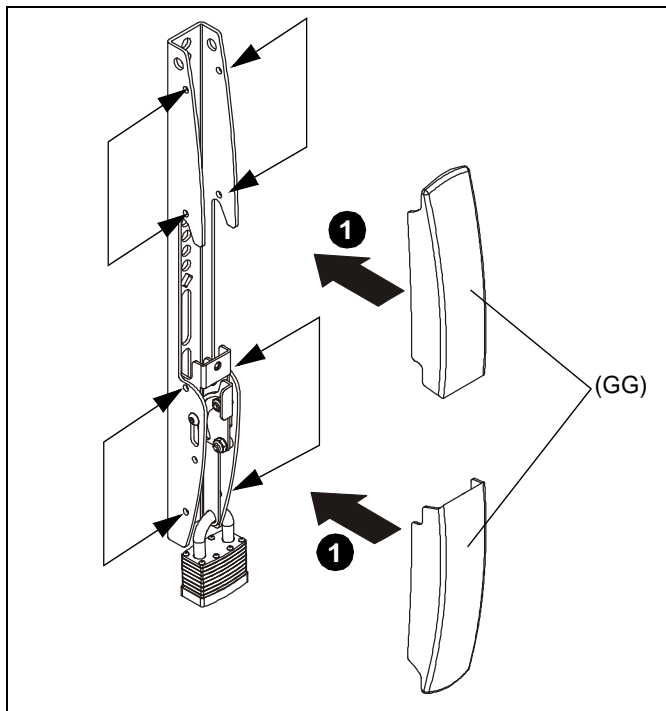

Figure 13
1. Install two interface bracket covers (GG) over the top and bottom of each interface bracket. (See Figure 13)
NOTE: Be sure to line up tabs inside the bracket covers with holes on sides of interface brackets. (See Figure 13)